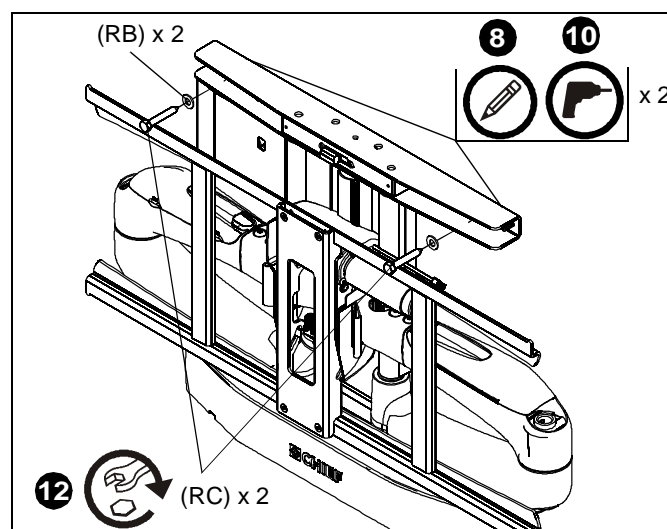

Figure 7
8. Mark the pilot holes through PXR upper bracket. (See Figure 7)
12. Return PXR to mounting bracket and fasten to wall using two 5/16 x 2-1/2" lag screws (RC) and two 5/16" flat washers (RB). (See Figure 7)
7. Lower PXR (Q) onto mounting bracket, ensuring PXR fits over mounting bracket (X) tabs. (See Figure 7)